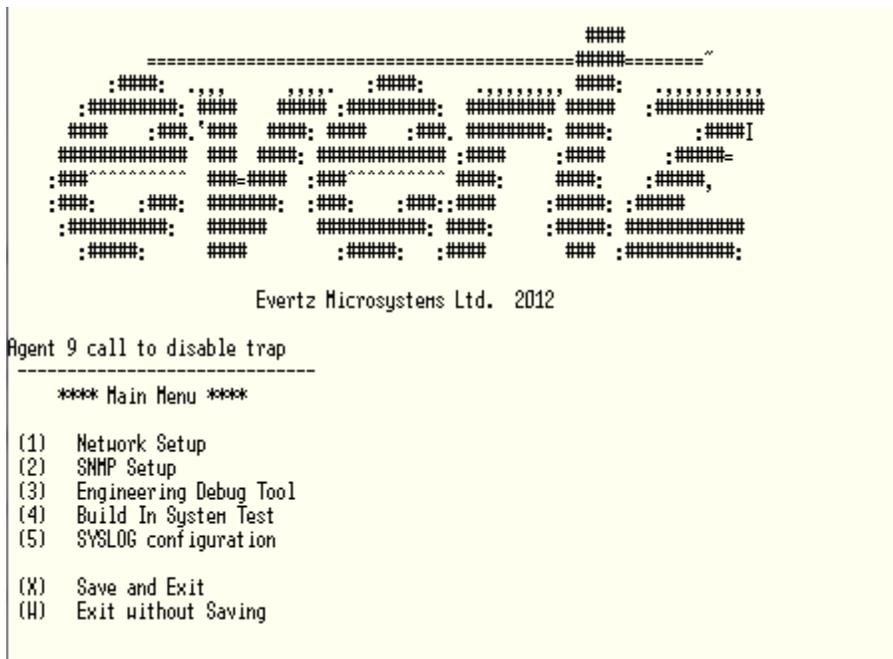

Figure 2-3 : Main Menu Prompt
6. After logging in the **Main Menu** will appear in the terminal window as shown in Figure 2-3.